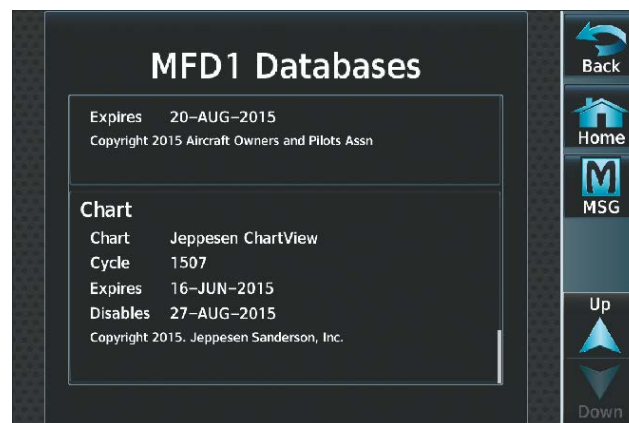

Figure 8-17 MFD ChartView Database Information
The ChartView status information can be found on the MFD1, PFD1, PFD2, GTC1, and GTC2 Databases Screen (Figure 8-17). The 'Expires' date is the revision date for the next database cycle. The 'Expires' date appears in amber when expired. ChartView becomes inoperative 70 days after the ChartView 'Expires' date is reached. This is shown as the 'Disables' date. When the disables date is reached, the date is displayed in amber. Also, the **Charts** Button on the Home Screen appears subdued and is disabled until a new issue of ChartView is installed.
- 4) Scroll to display the ChartView database information as shown in Figure 8-17.
The ChartView database cycle number shown in Figure 8-17, 1507, is deciphered as follows: